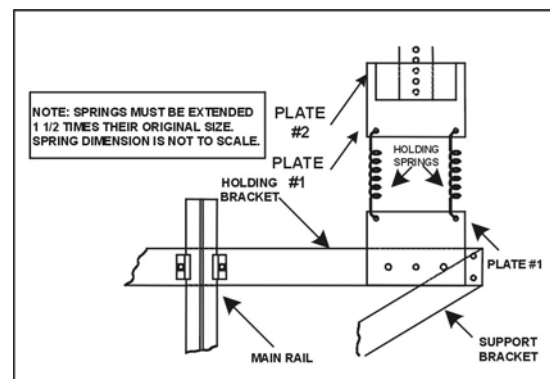

Figure 1-12
- Connect tension springs to plate #1 and to support bracket plate #1. [See Figure 1-12.]